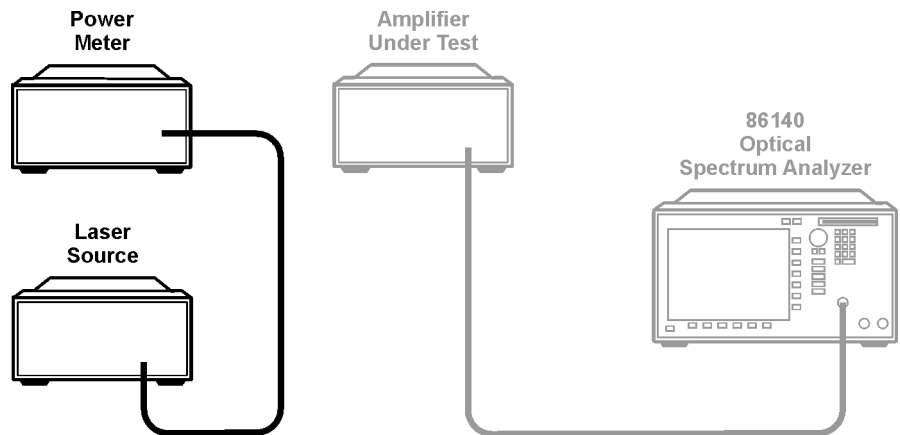

Figure 4 Power Meter Measurement
- 5 Connect the source to the power meter as in Figure 4. Set the power meter wavelength parameter to the source mean wavelength value.